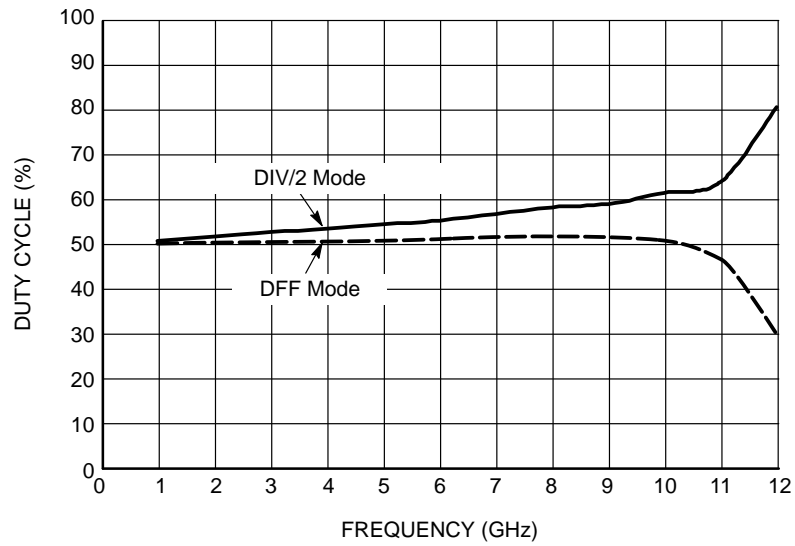

Figure 9. Duty Cycle % vs. Frequency
25. See Figure 9. Duty Cycle % vs. Frequency.